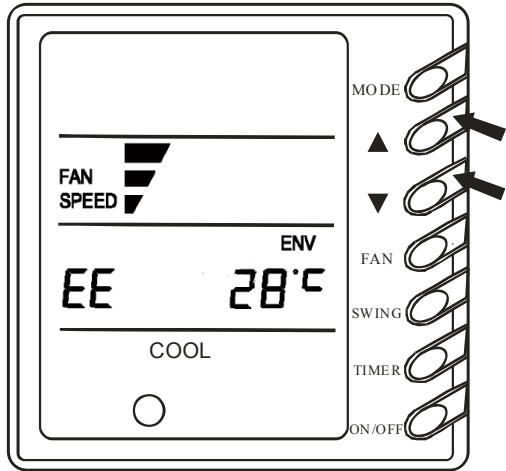

Fig.9
4.3.12 Button lock function (Fig.9)